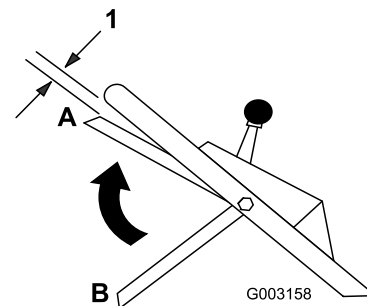

Figure 18
9. Lift the blade control bar up to about one inch (2.5 cm) below the handle; refer to position A in Figure 18.